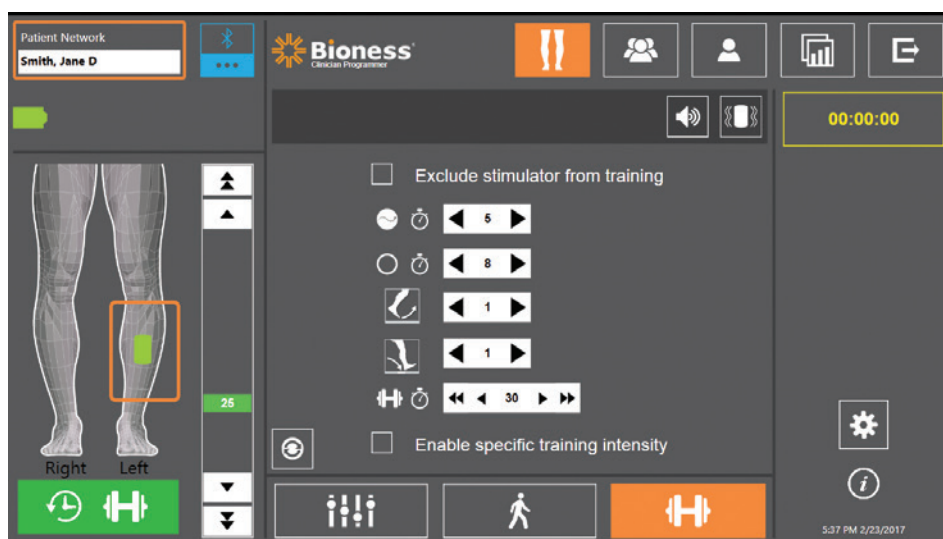

Figure 9-7: Programming Stimulation, Training Settings Screen
- The Training Settings Screen will open. See Figure 9-7.